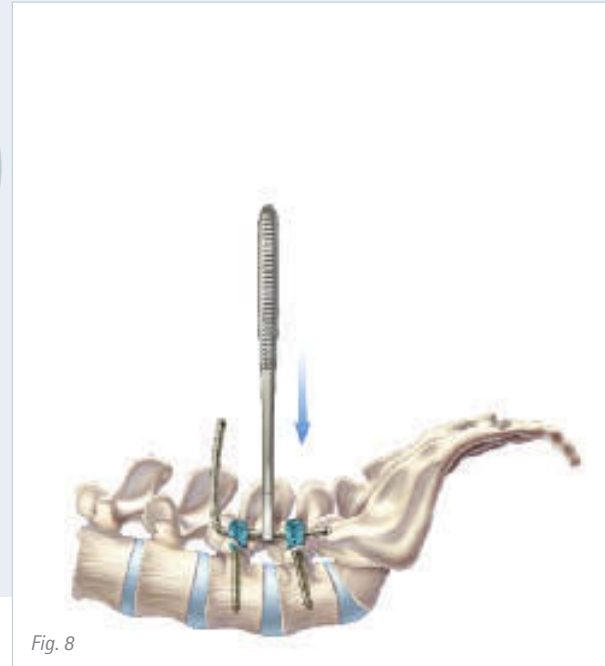

Fig. 8
- Optional use of flexible rod trials (FW185R) as a guide for rod bending and measuring correct rod length. (Fig. 8)